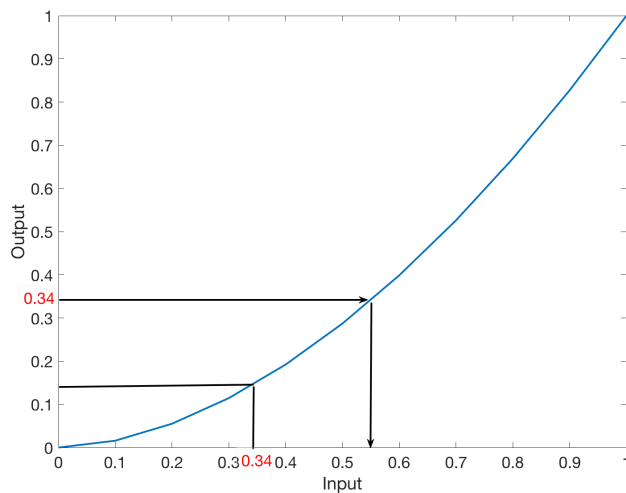

Figure 3. A non-linear response  $y$  to  $x=0:0.1:1$ .
**Hint 1:** For simplicity, assume an input  $x=0:0.1:1$  and a non-linear output response  $y$ , see Fig. 3. As seen in this figure, the output  $y$  is not linear with respect to the input  $x$ . For a linear output response, for example the input value  $x=0.34$  would have resulted in  $y=0.34$ , but as seen in Fig. 3,  $x=0.34$  results in  $y=0.14$ . If we want the output to be  $y=0.34$ , the input has to be almost  $x=0.55$ , follow the arrows in Fig. 3. In order to achieve a linear output response, the input  $x$  has to be changed correspondingly, see Hint 2.
**Hint 2:** In the curve in Fig. 3, the output  $y$  is only given at 11 points, namely at  $x=0:0.1:1$ . If we want the output value at another  $x$ -value, for example  $x=0.34$ , then we need to use an interpolation. In Matlab you can use the following,
which will return 0.14 for this example. However, as shown in Fig. 3, here we are interested to know the opposite, meaning that what  $x$  would result in  $y=0.34$ . This means that we need to look at the inverse of the function shown in Fig. 3 and in Matlab it can be done by switching  $x$  and  $y$  in the above command as,